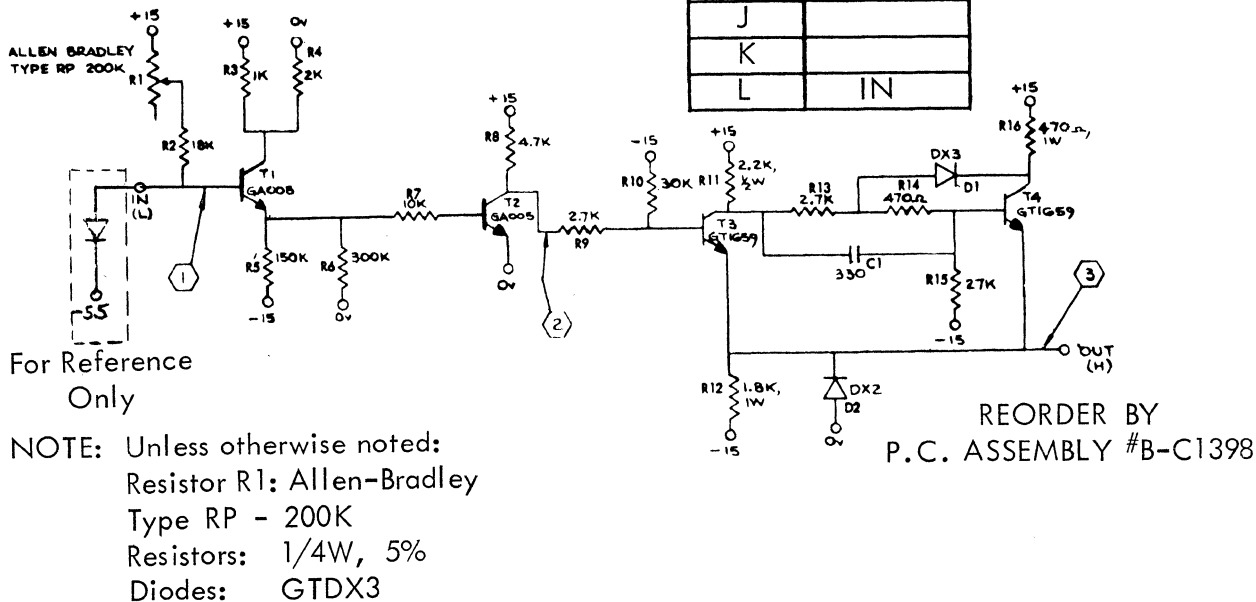

FIGURE 3-14 SCHEMATIC DIAGRAM - PSH-A
(3) Circuit Description Sprocket Amplifier/Shaper PSH-A (See Figure 3-14)